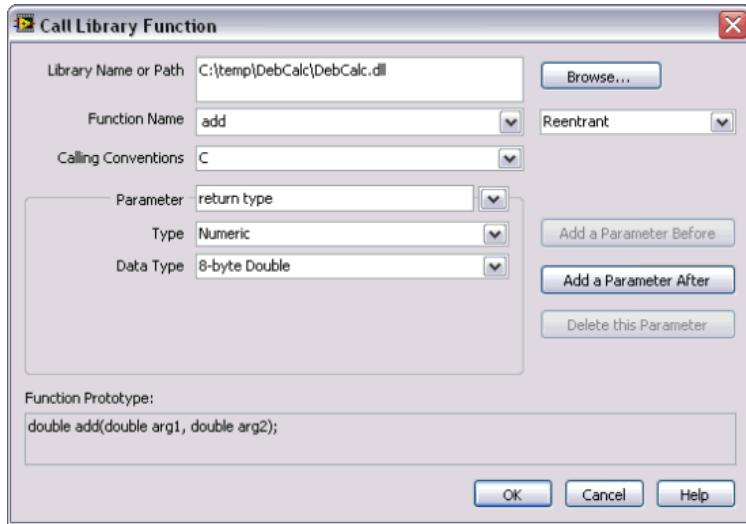

Figure 8. Call Library Function Dialog Box
11. When you finish, the Call Library Function dialog box should look similar to Figure 8.